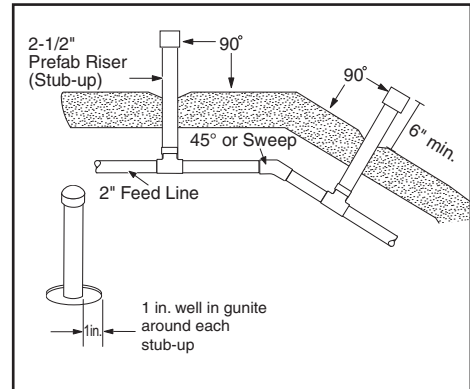

Figure 3. Cleaning Head Risers
- Position stub-up perpendicular (90°) to the slope of the finished pool floor and secured to avoid movement during gunite process. (see Figure 3)